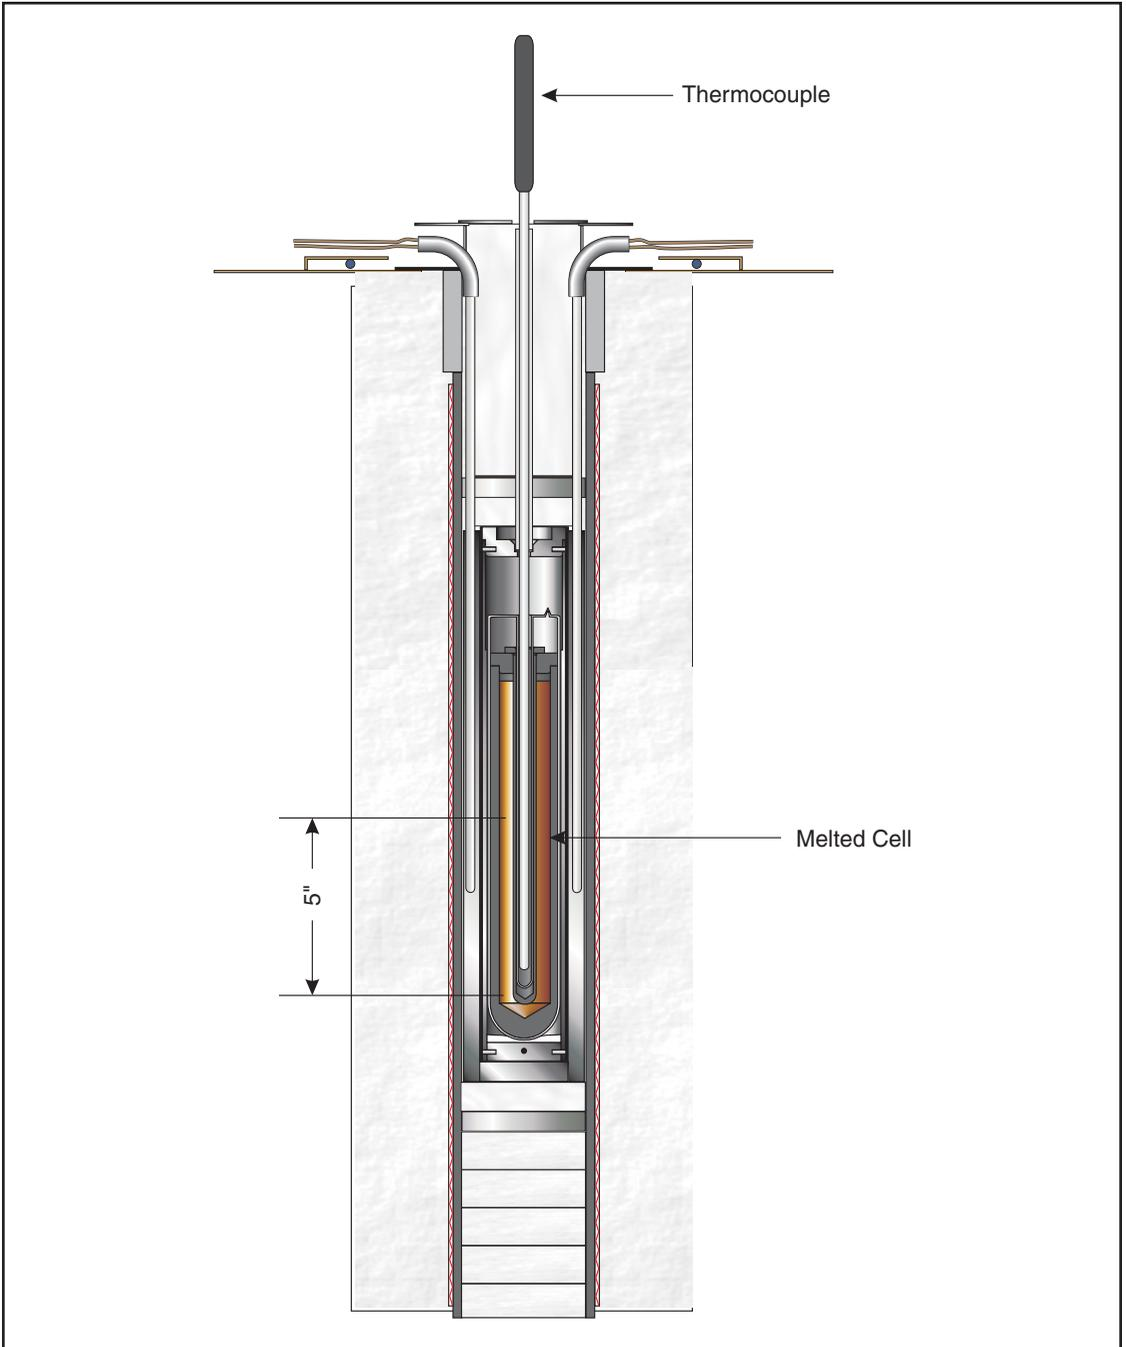

Figure 11 Testing Uniformity
- **Adjustment of Temperature Uniformity:** Vertical uniformity should be measured in a freeze point cell with the metal melted. The vertical temperature uniformity in the cell should be within  $\pm 0.5^{\circ}\text{C}$  for a distance of five inches upwards from the bottom of the central well (See Figure 11 on page 55). A periodic check of the temperature uniformity using a Type R or Type S thermocouple is recommended at least once every year.